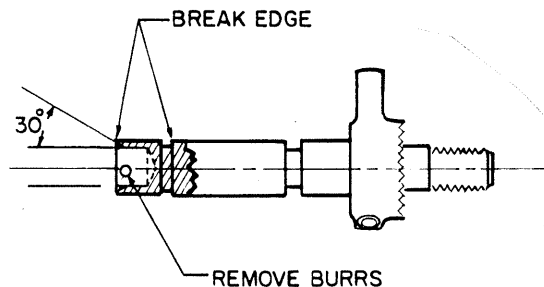

Figure 2. Mixture Control Shaft Assembly
- (1) Break sharp edge on end of shaft and one edge of C-washer groove. See Figure 2.